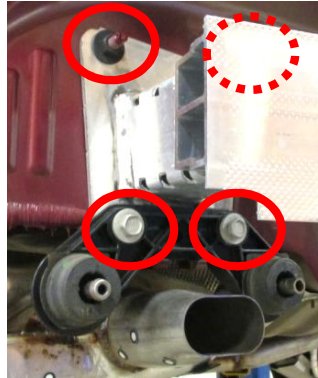

Figure 3
- Bumper beam removal** – use 15mm socket to remove (2) flange nuts and (2) bolts from bumper beam each side, see **Figure 3**. Gently remove bumper beam and exhaust rod hanger. Use a support to keep muffler from getting damaged.
2. Bumper beam removal – use 15mm socket to remove (2) flange nuts and (2) bolts from bumper beam each side, see **Figure 3**. Gently remove bumper beam and exhaust rod hanger. Use a support to keep muffler from getting damaged.